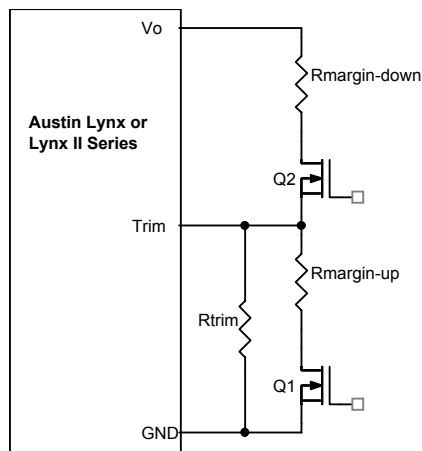

Figure 31. Circuit Configuration for margining Output voltage.
To provide over temperature protection in a fault condition, the unit relies upon the thermal protection feature of the controller IC. The unit will shutdown if the thermal reference point  $T_{ref2}$ , (see Figure 31) exceeds  $150^{\circ}C$  (typical), but the thermal shutdown is not intended as a guarantee that the unit will survive temperatures beyond its rating. The module will automatically restarts after it cools down.
Output voltage margining can be implemented in the Austin MicroLynx™ modules by connecting a resistor,  $R_{margin-up}$ , from Trim pin to ground pin for margining-up the output voltage and by connecting a resistor,  $R_{margin-down}$ , from Trim pin to Output pin. Figure 31 shows the circuit configuration for output voltage margining. The Lynx Programming Tool, available at [power.tycoelectronics.com](http://power.tycoelectronics.com) under the Design Tools section, also calculates the values of  $R_{margin-up}$  and  $R_{margin-down}$  for a specific output voltage and % margin. Please consult your local Tyco Field Application Engineer or Account Manager for additional details.